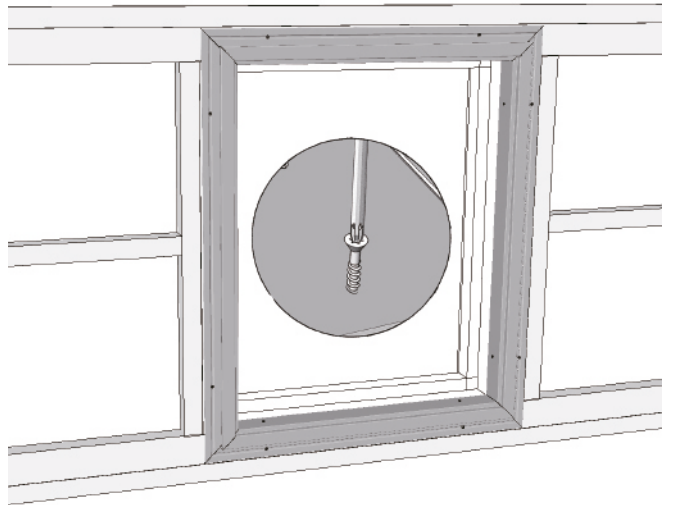

Fig24-5
5.Install the board cut in the previous step,pre-drilled holes and then fixed with open nails.As shown in Figure 24-5: